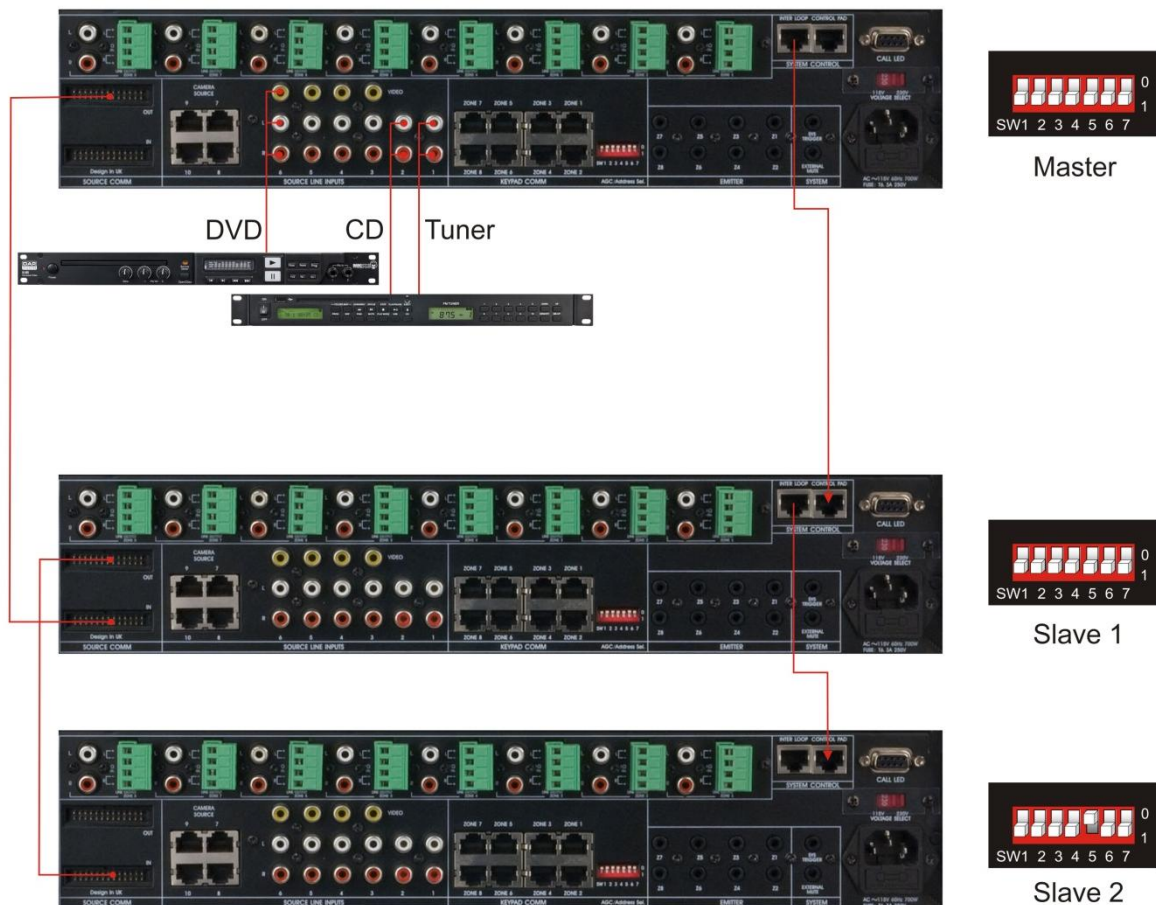

Fig. 4
You can loop up to 16 units giving you a maximum of 128 zones using this connector. Also see fig. 4.
This connector is used for linking purposes when using more than 2 units and is wired in parallel with the **Inter Data Loop (10)** connector. Also see figure 4.